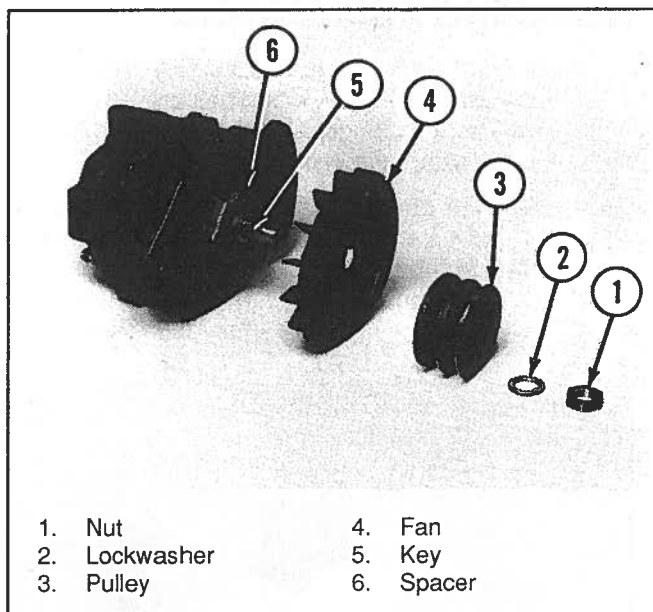

Figure 6-71. Pulley Removal
5. Remove the pulley nut (1) (Figure 6-71) and lockwasher (2). Remove the pulley (3), fan (4) and spacer off the rotor shaft, and the pulley key (5) and spacer (6) from the shaft.